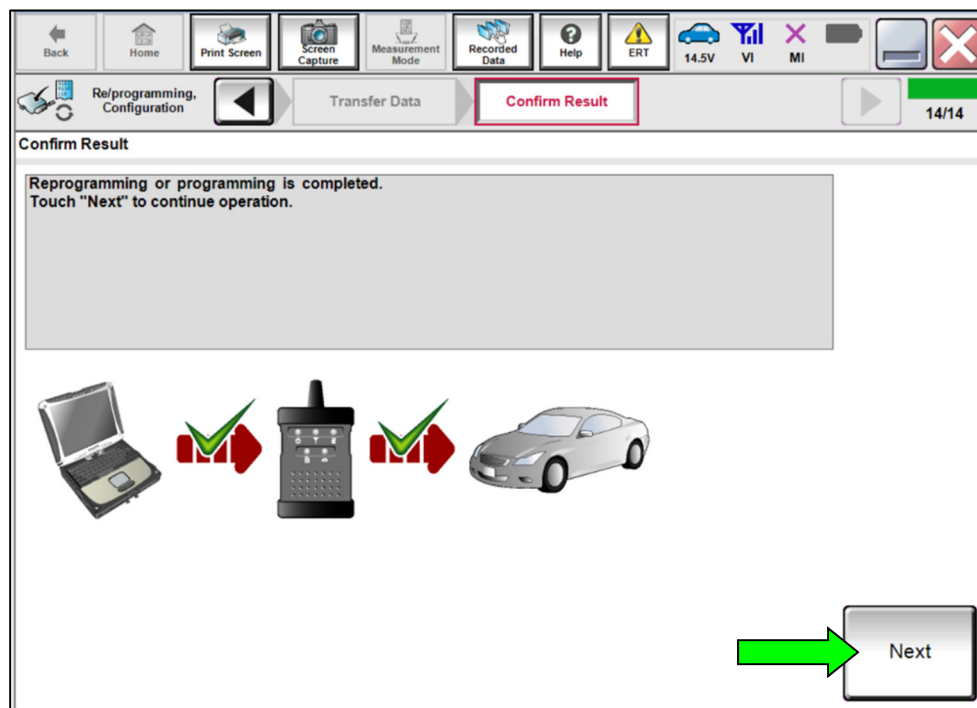

Figure 17
23. Once the screen in Figure 17 displays, the reprogramming is complete. Select **Next**.
- If the screen in Figure 17 does NOT display, (indicating that reprogramming did not complete), refer to **VCM Recovery** on page 16.